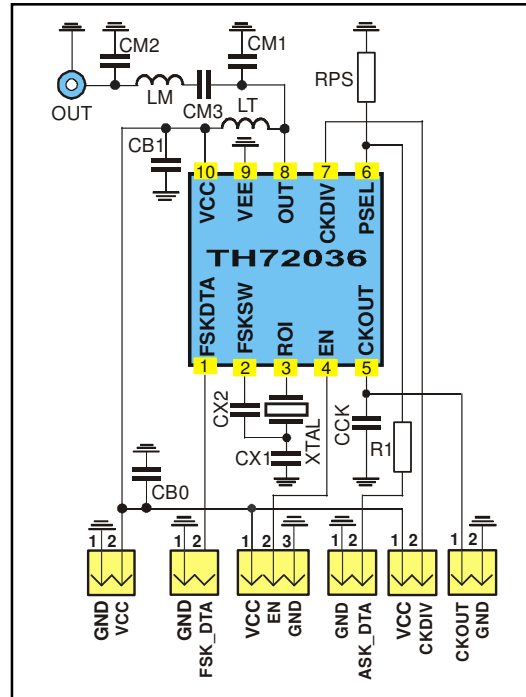

Fig. 6: Test circuit for FSK and ASK with 50 Ω matching network
typical values at $T_A = 23\text{ }^\circ\text{C}$ and $V_{CC} = 3\text{ V}$; test circuit shown in Fig. 6, $f_c = 868.3\text{ MHz}$
typical values at $T_A = 23\text{ °C}$ and $V_{CC} = 3\text{ V}$; test circuit shown in Fig. 6
5.1 Test circuit component list to Fig. 6